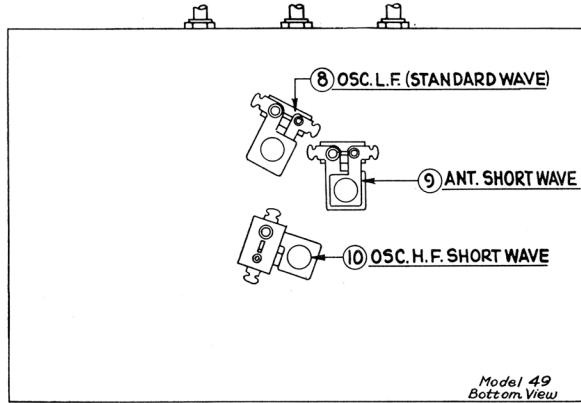

Fig. 17
This is condenser (8) (see Fig. 17) located underneath chassis and accessible from underneath. Use the fibre wrench. Set signal generator switch at 600, tune in the signal at 60 on the dial and adjust condenser to maximum.
M.C. Turn the wave-band switch of the set to the right and the dial to just below 11 M.C. The 10.8 harmonic should be picked up here and the two condensers should be adjusted to give maximum reading on the output meter, on this signal. Fig. 17 shows these two compensators.